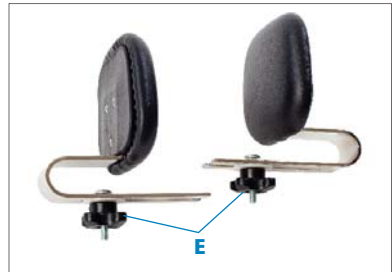

Figure 12c
Attach the knee blocks (see Figure 12c) by removing knobs (E) and tightening behind board, with washer between knob and board.